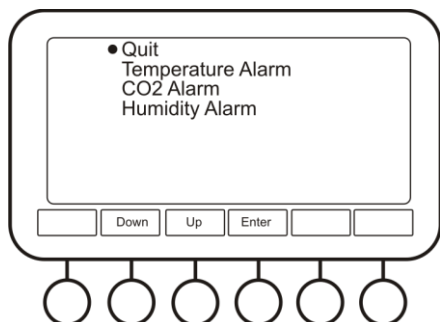

Figure 9. Alarm Settings menu
- **Alarm Settings** (fig. 9). User can set the alarm settings based on values of temperature, CO₂ level, and relative humidity. All alarms are working on the following principle, temperature taken as an example: